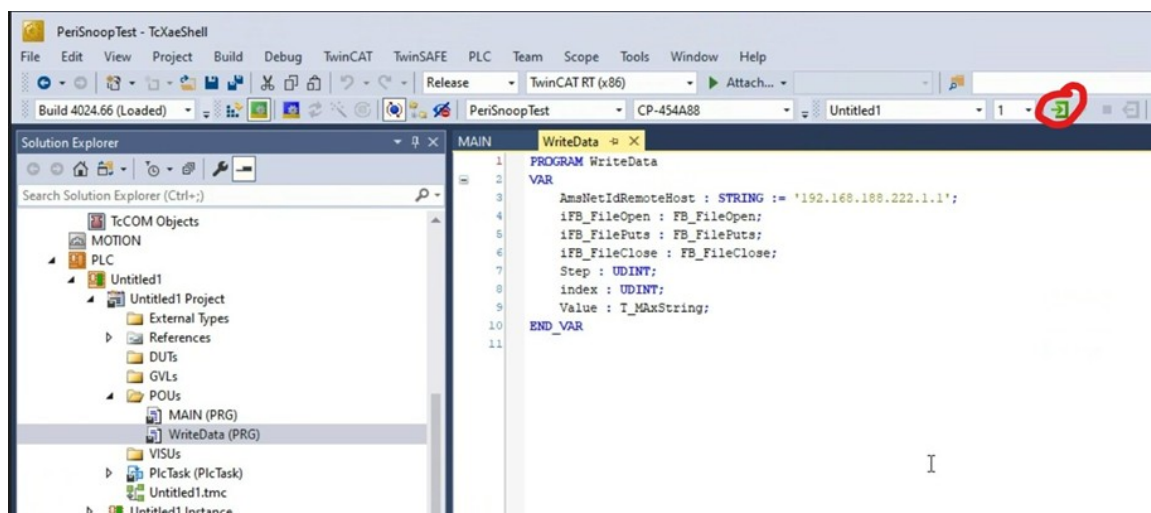

Figure 15: Load the Running View by Login
12. Finally, switch to the running program view by clicking on the Login button as marked in Figure 15.